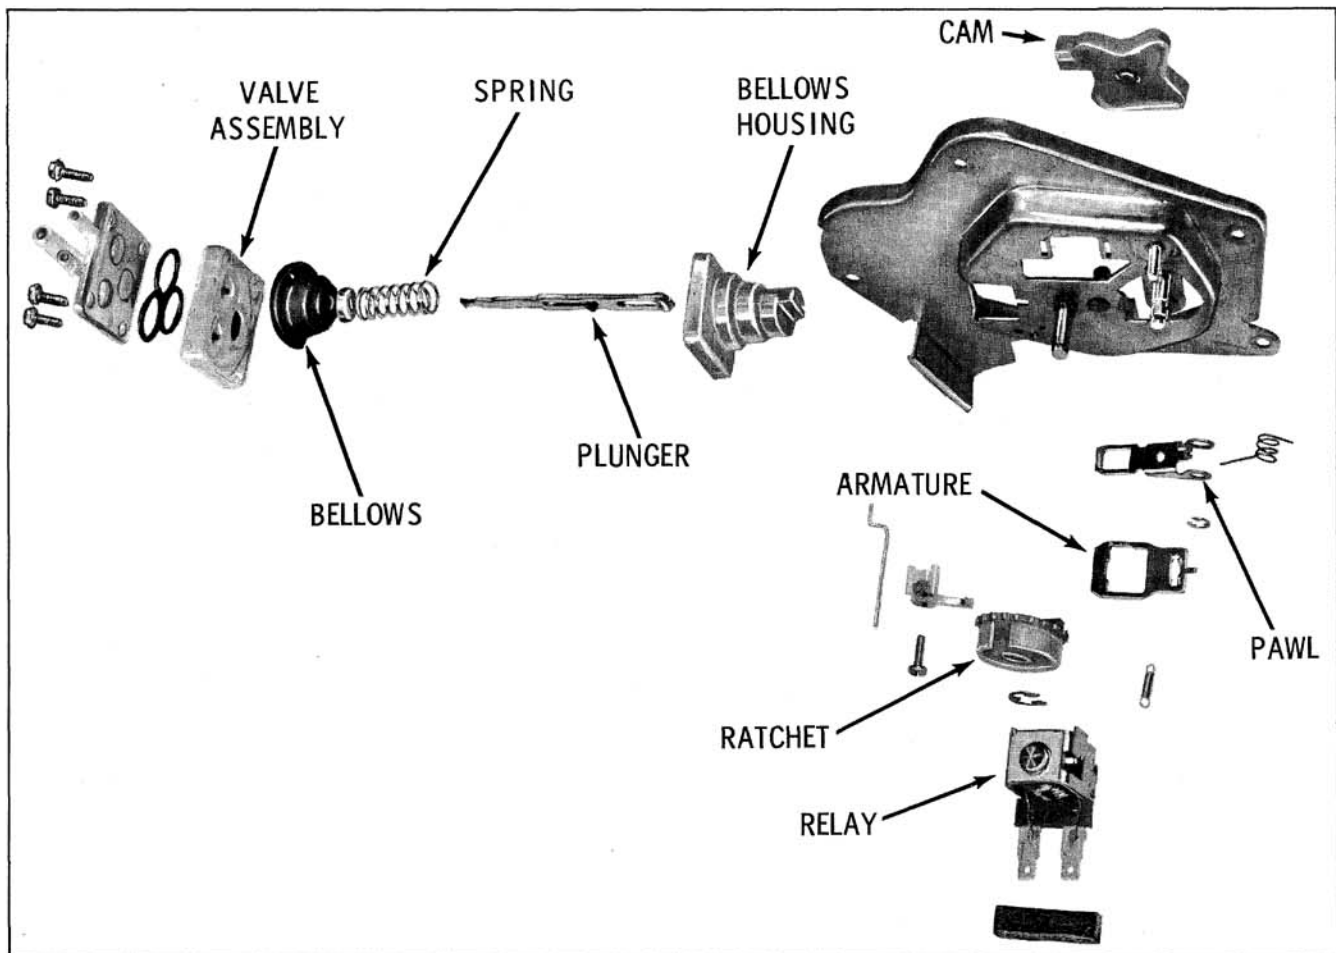

Fig. 13-207 Washer Assembly
**Disassembly & Assembly (Fig. 13-207)**